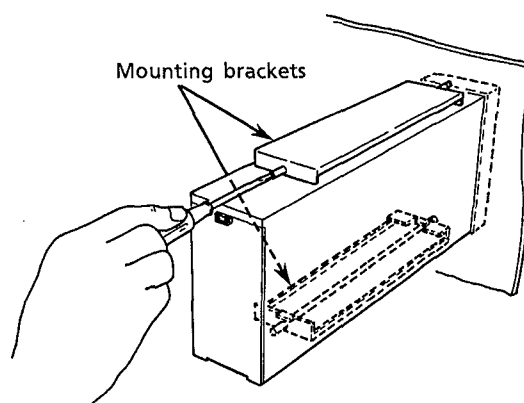

Figure 3.2 Attaching the Mounting Bracket
- ③ Attach the mounting brackets to the unit, and fix the unit to the back of the front panel with screws (see Figure 3.2) through top and bottom mounting brackets.